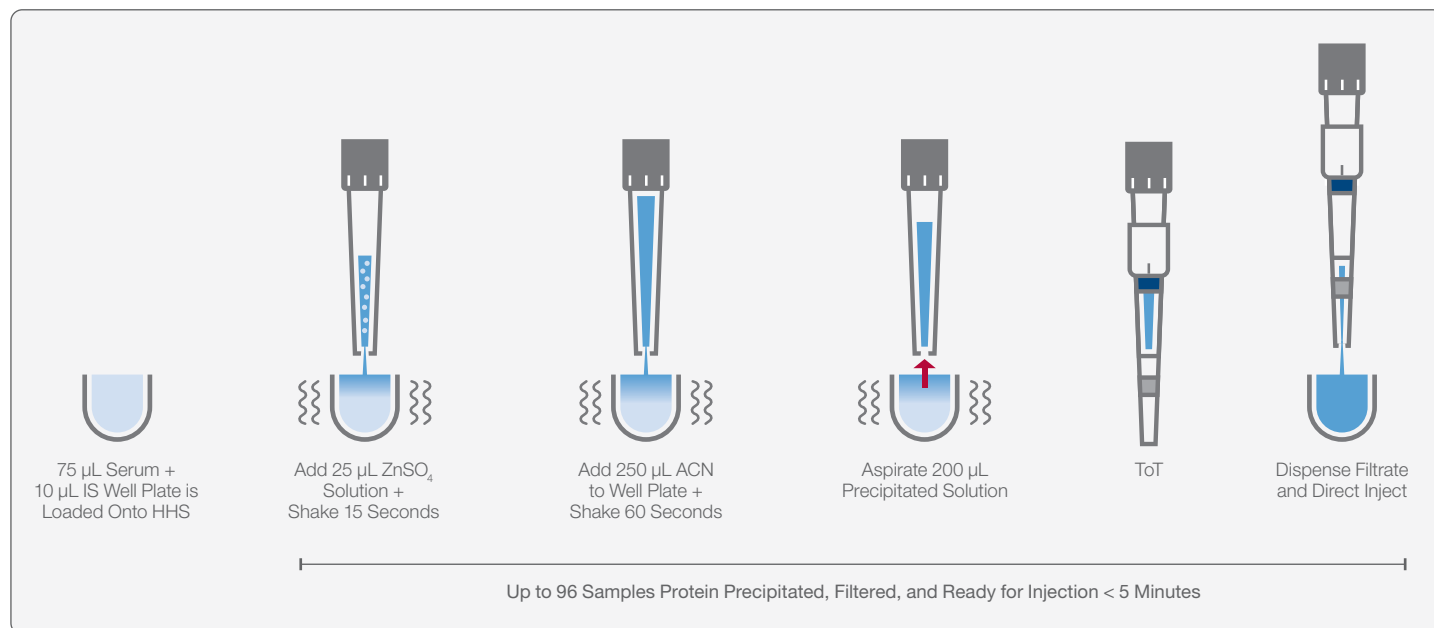

Figure 1: Schematic for Tip-on-Tip (ToT) Filtration method. Blue gasket within filtration tips creates an air tight seal for efficient dispense of solution.
A 75 µL aliquot of each serum specimen, calibrator, quality control sample, and blank is transferred into a 96-well 1.2 mL plate. Each sample is spiked with 10 µL of Internal Standard (IS). The plated samples were then loaded onto the HHS on a NIMBUS96 system where the solutions are equilibrated for 20 minutes at 500 RPM. 300 µL CO-RE® tips add 25 µL ZnSO₄ solution. The HHS shakes for 15 seconds at a setting of 1,400 RPM. The same CO-RE tips then add 250 µL ACN to the sample solution. The HHS shakes for another 60 seconds at a setting of 1,500 RPM. After a delay of 20 seconds, 200 µL of the protein precipitated samples are aspirated using 300 µL wide bore CO-RE tips, and then dispensed through LPFT-UP. The schematic for the novel ToT method is depicted in Figure 1 (see page 2). The solutions are collected in a well plate and subsequently covered with no further sample preparation required. The deck layout for this fully automated method is shown on page 4.